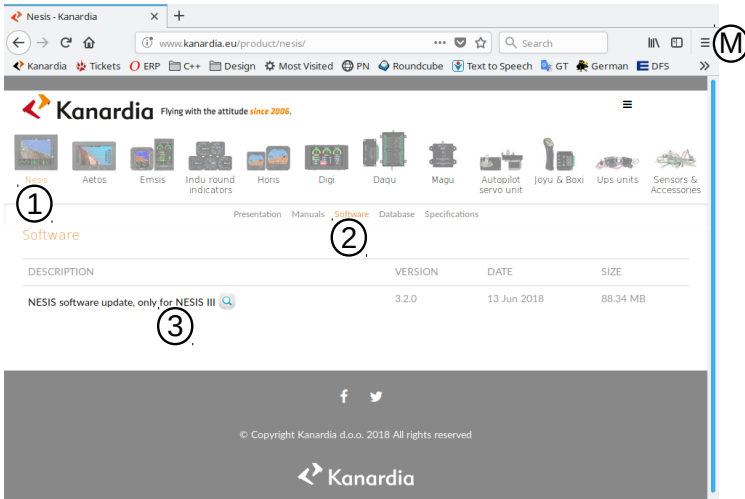

Figure 10.1: Illustration of the Nesis software download page. Usually only the latest update is available.
- ① Open the home page and select *Nesis* icon on the top. This leads to Nesis specific page.
- ② Select *Software* next. This opens a page with Nesis specific software. An example is shown in Figure 10.1.
- ③ Click on the link to start download process of selected software file.
1. Click on the ≡ menu symbol. See label (M) in Figure 10.1.